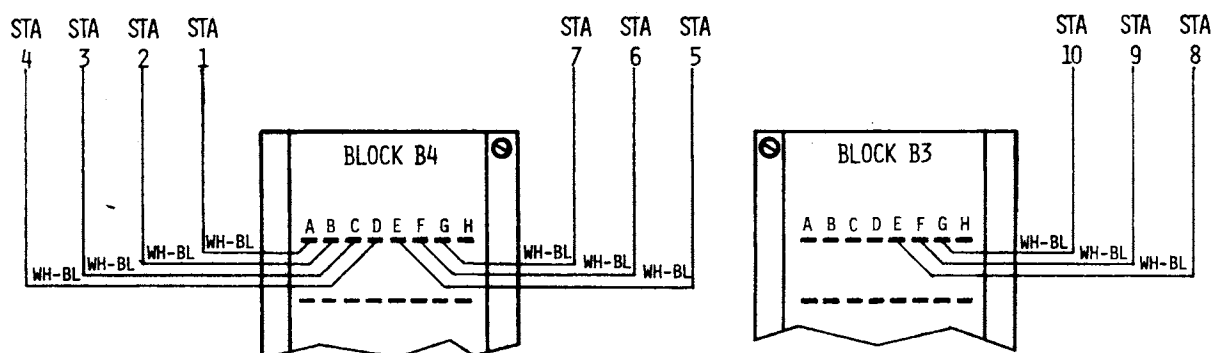

Figure 1 - Station Cable Arrangement (Tip lead shown for stations 1 through 10)
4.06 Terminate key telephone cables (one per station) on connecting blocks B3 and B4 of the KSU or EU. Figure 1 shows sample station cable connections for a typical installation. Refer to Tables 4, 10 and 11 for station lead designations and connecting block termination points.
(See Figure 1)